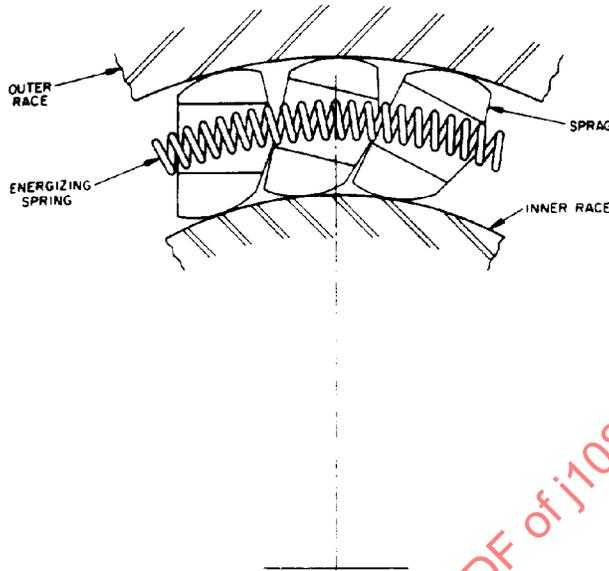

FIGURE 7—TYPICAL FULL COMPLEMENT SPRAG ONE-WAY CLUTCH DIAGRAM
5.2.2 FULL COMPLEMENT SPRAG CLUTCH—A clutch in which the sprag configuration provides circumferential spacing. (See Figure 7.)